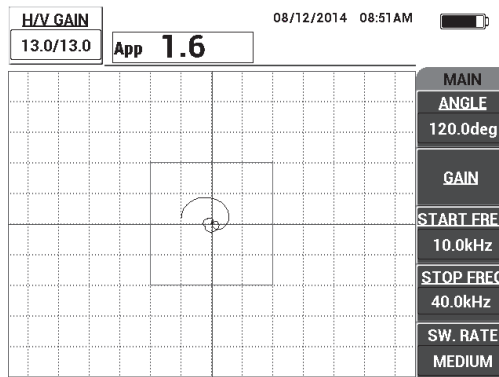

Figure 6-19 The swept figure between two divisions
2. Place the probe tips on a good part of the standard, press the **GAIN** key (**dB**) and then use the knob to adjust the gain until the swept figure is contained between two divisions inside the alarm box (see Figure 6-19 on page 143).